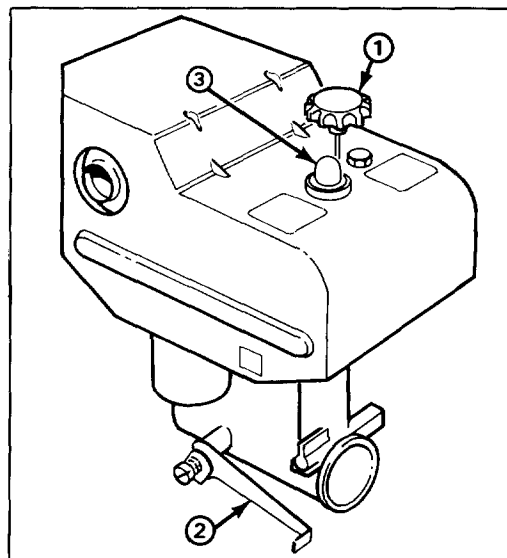

Figure 10
Throttle (Fig. 10) — Pulling the throttle upward increases the engine speed.
Choke (Fig. 10) — Choke is located on left side of engine. Push choke down to FULL choke position to start a cold engine. As engine warms up, move choke up gradually to off.
Primer (Fig. 10) — Press primer to pump small amount of gasoline into engine for improved cold weather starting.
3. Move choke to full choke position (Fig. 10).
5. Depress primer (Fig. 10) five times.
7. After engine starts, immediately move choke (Fig. 10) to 3/4 position. As engine warms up, move choke to 1/2 position; then to OFF position. If engine falters, return choke to 1/2 position. When engine warms sufficiently, move choke to OFF position.